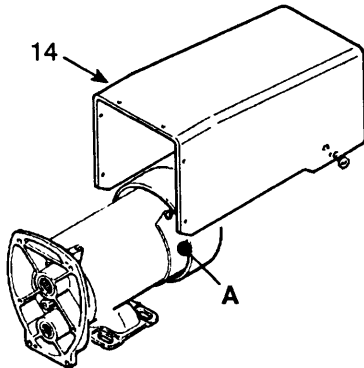

Fig 7
1. Remove the motor cover (14) and both inspection covers and gaskets (A). See Fig 7.